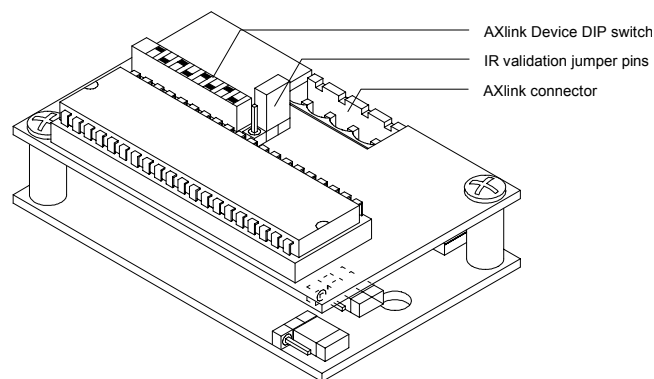

FIG. 11 IR receiver AXlink device DIP switches, IR validation jumper pins, AXlink connector, and receive frequency jumper pin locations
1. Locate the eight-position Device DIP switch (FIG. 11).